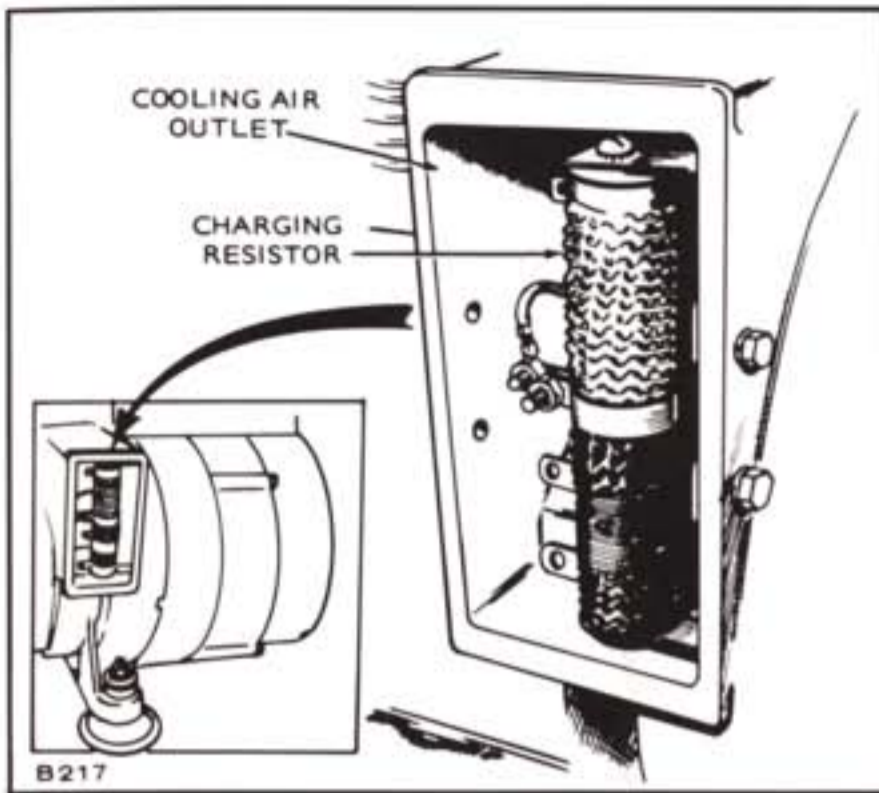

FIGURE 4-34. GENERATOR AIR OUTLET
3. Remove B¹ lead from tapped adjustable resistor in generator air outlet opening, Figure 4-34.